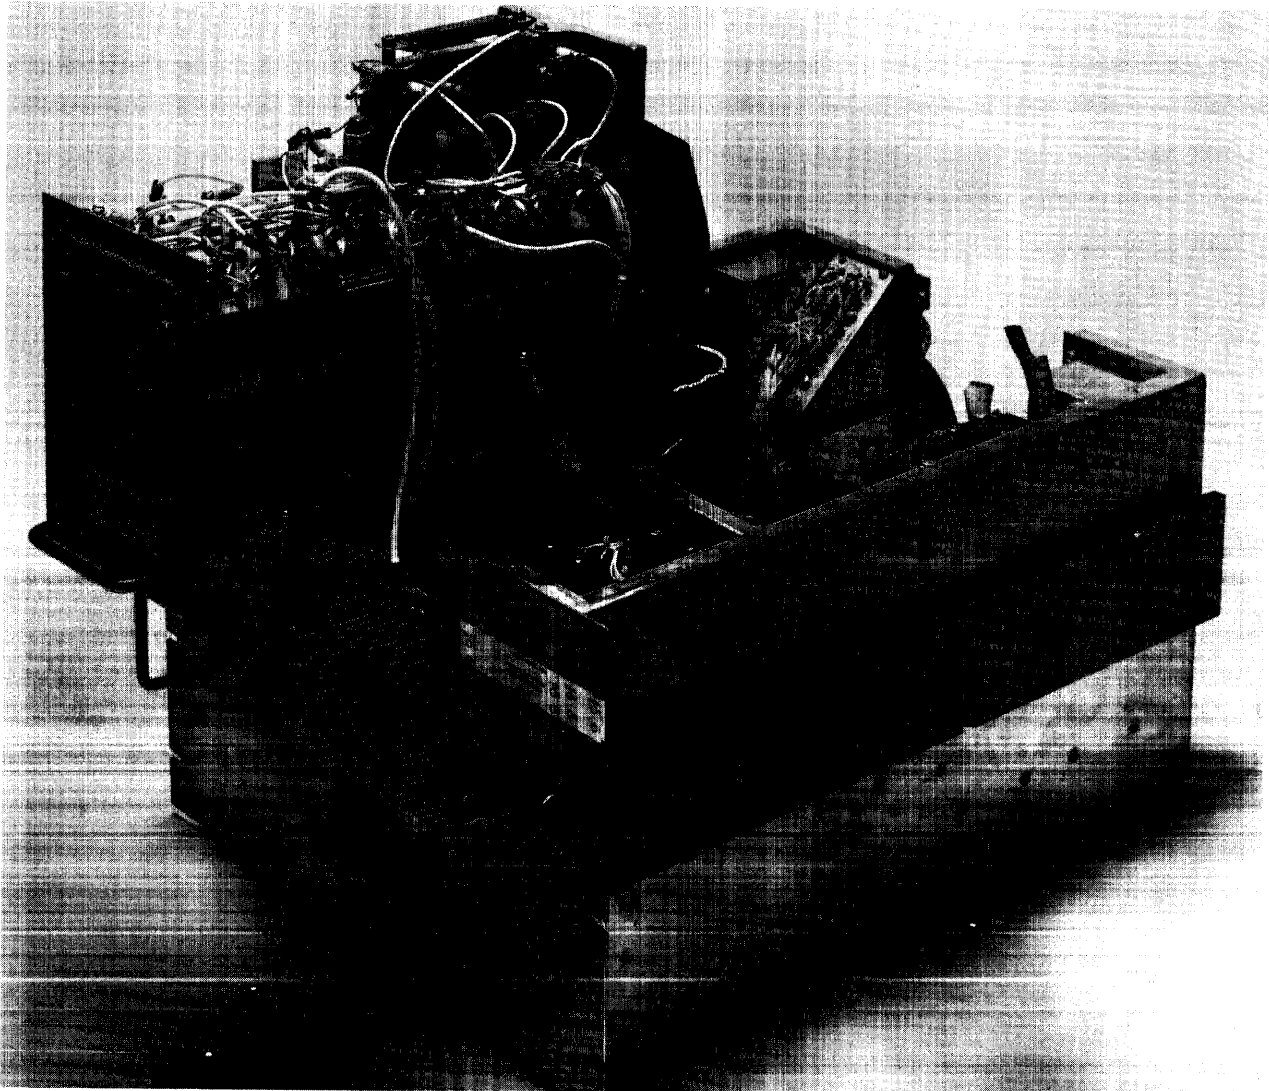

Figure 5-31. Logic Power Supply Heat Sink Extension
- d. All high-power semiconductor devices are located on a multi-section heat sink which swings out of the supply for ease of access. Refer to figure 5-31.